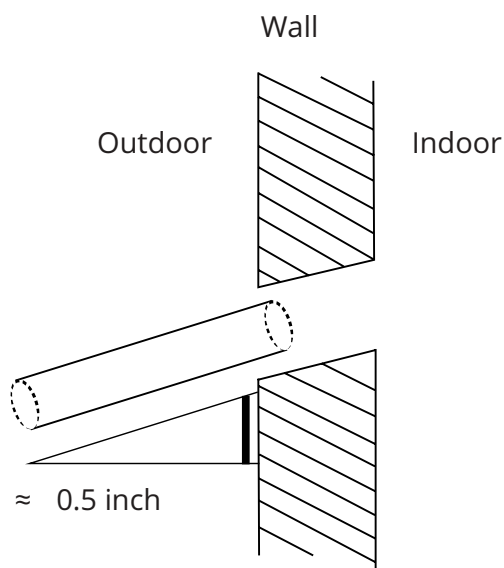

Fig. 5.4
3. Using a 2.5" hole saw drill, drill a hole in the wall. Make sure that the hole is drilled at a slight downward angle, so that the outdoor end of the hole is lower than the indoor end by about 0.5". This will ensure proper water drainage (See Fig. 5.4). Place the protective wall cuff in the hole. This protects the edges of the hole and will help seal it once you finish installation.